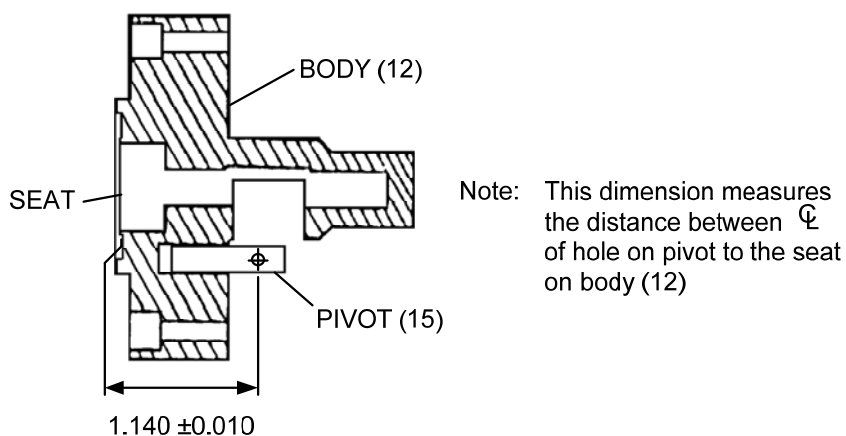

Figure 1. Pivot Detail
DO NOT CHANGE THE SETTING OF THE PIVOT (15) AS IT IS SET AT THE FACTORY TO THE DIMENSION SHOWN IN FIGURE 1.
- E. Remove rod (14) along with quad rings (9) from valve body (12); discard quad rings (9).
- F. Remove float (21) from sump (24). Remove plug (19) and packing (20) from float (21). Discard packing (20). Remove pin (22) from float (21).
DESCRIPTION (IPL Figure 1 Item Number)	INSPECTION CRITERIA
3. Assemble the Water Sump Control Valve (See IPL Figure 1)
MAKE SURE PIVOT (15) IS INSTALLED IN ACCORDANCE WITH THE DIMENSIONAL REQUIREMENT AS SHOWN IN FIGURE 1.
- F. Put assembled rod (9) and pivot (15) in the valve body (12). Put new packing (13) in the groove of valve body (12).
- I. Install screws (10) and washers (11) to sump (24)
- J. Put assembled cap (1) on valve body (12) and install screws (7) and lock washers (8).
- K. Put new packing (23) into the groove of sump (24).
- 4. Assemble the Plunger Assembly** (See IPL Figure 1)
- A. Put new packings (29) on plunger (27); and put assemble plunger (27) in plug (26) and install new backup retainer (28).
- B. Install assembled plunger (27) in sump (24) and secure with plug (26); put split ring (30) on plunger (27).
IPL Figure 1. Water Sump Control Valve